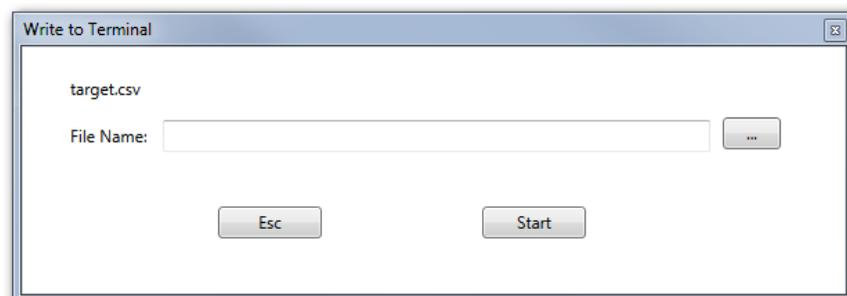

Figure 3-8: Write to Terminal Dialog
3. After selecting the Write to Terminal icon, as per Step 2, a new dialog (Figure 3-8) will prompt for the name of the file to be transferred. This is the name given to the file when it was saved on the PC.
4. In the **File Name** text entry area (Figure 3-8), enter the name of the file to be transferred from the PC to the terminal.